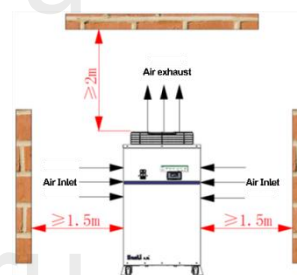

Figure 4 Equipment Installation Space
- There must be no obstructions within 1.5m of the air inlet and 2.0m of the air exhaust to avoid affecting the heat dissipation of the equipment , as shown in Figure 4.